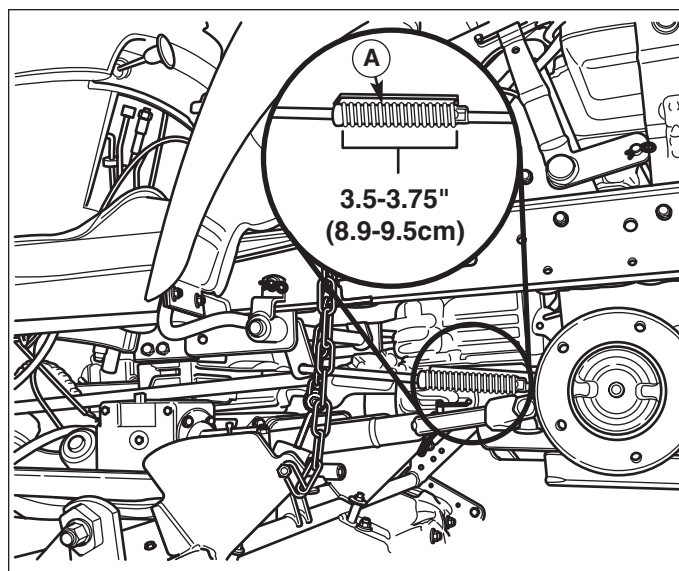

Figure 42. Brake Adjustment
3. Locate the brake spring (A, Figure 42). Measure the length of the compressed brake spring with the parking brake on. The compressed brake spring length should be 3-1/2 to 3-3/4" (8,9-9,5cm).